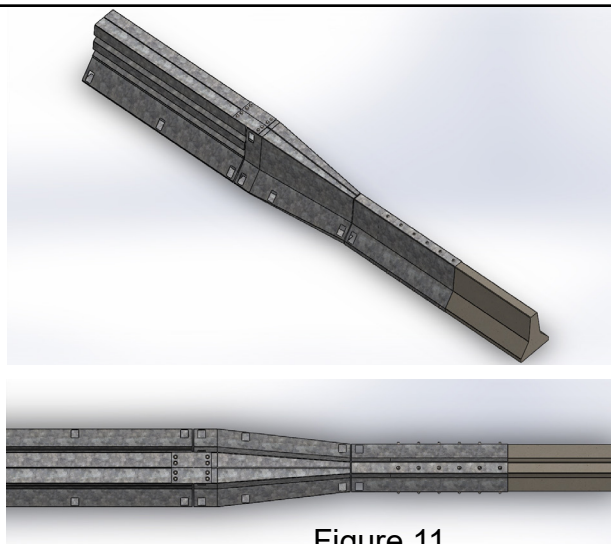

Figure 11
3. Sergard MDS® TL4 back to back into PCB. **See Figure 11**
Sergard MDS® TL4 for median barrier installations with PCB and Guard Rail. **See Figure 11**